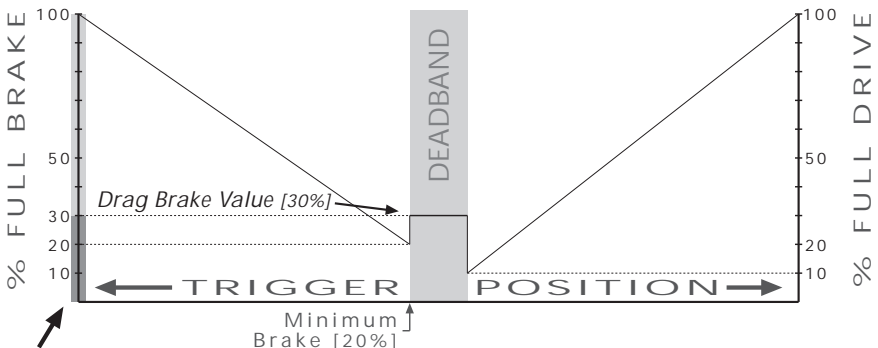

Figure 6: Graphical representation of Drag Brake Value as a percentage of Full Brake.
- Adjusts amount of Drag Brake applied within the Deadband when throttle trigger is in the Neutral position (Figure 6).